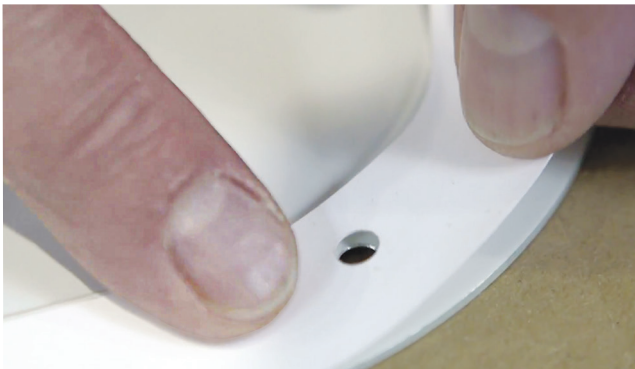

Figure 3: Positioning the gasket
2. Align the gasket so the holes match the fastener holes on the panel. Lay the gasket flat, without stretching it, and peel off the pressure-sensitive adhesive liner carefully (Figure 3).